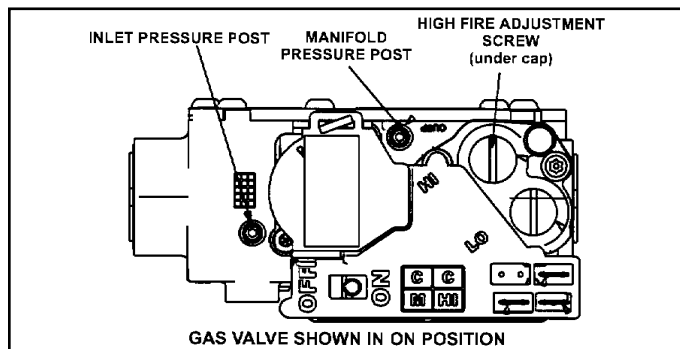

Figure 75.
6. Move gas valve switch to OFF. See Figure 75.
8. Move gas valve switch to ON. See Figure 75.